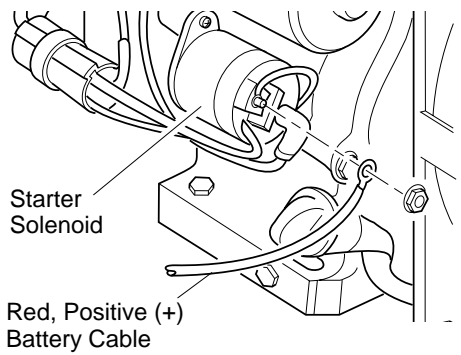

Figure 7 - Connecting Red, Positive (+) Battery Cable to Engine Starter Solenoid (Model PGH7500IE Shown)
1. Attach the red, positive (+) battery cable to the starter solenoid on engine (see Figure 7). The starter solenoid is located directly above the starter on Model PGH11000IE. This cable is factory installed.